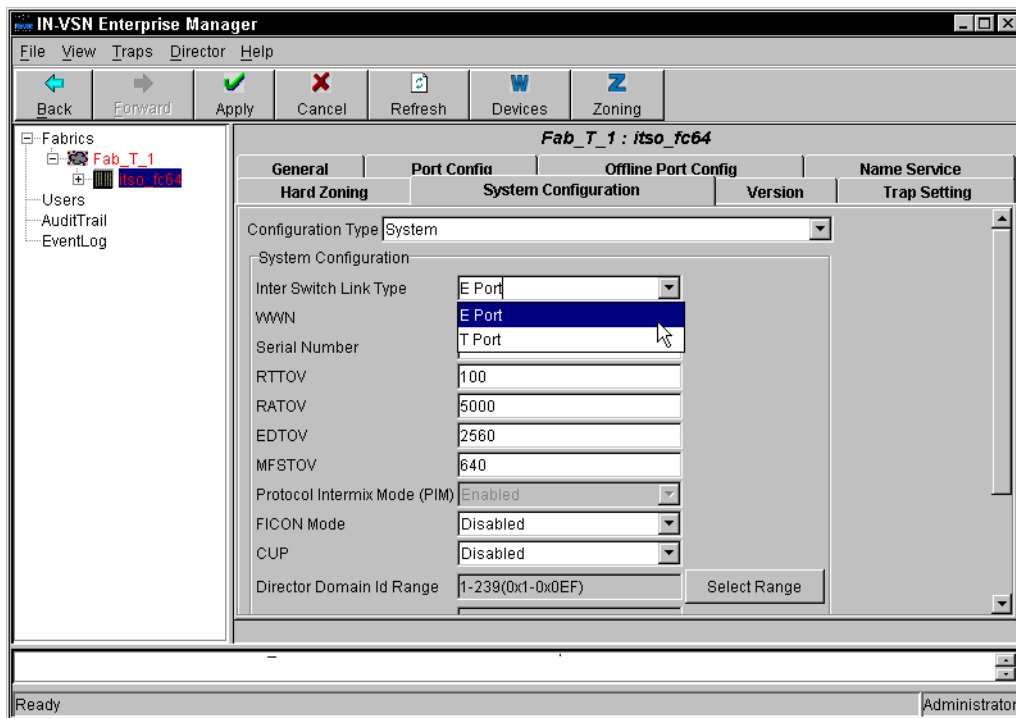

Figure A-28 IN-VSN: Configuring the director in E Port mode
3. Click the director icon on the navigation tree and we select the “System Configuration” tab. Then select “E Port” in the “Inter Switch Link Type” as shown in Figure A-28.